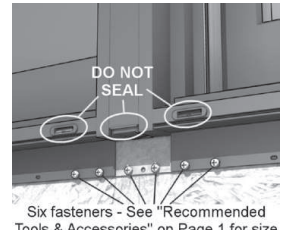

Figure 8
12. **(Required)** Follow steps 6 through 10 above (step 9 is recommended). For fastening the mull gusset plates, refer to the section "Recommended Tools & Accessories" box. Six screws are required on each gusset plate to ensure performance as labelled (see **Figure 8**).
13. **(Required)** On the exterior, be careful not to seal the mull caps or Double Hung weep holes at the outer edge when siding or flashing is applied (See **Figure 8**).